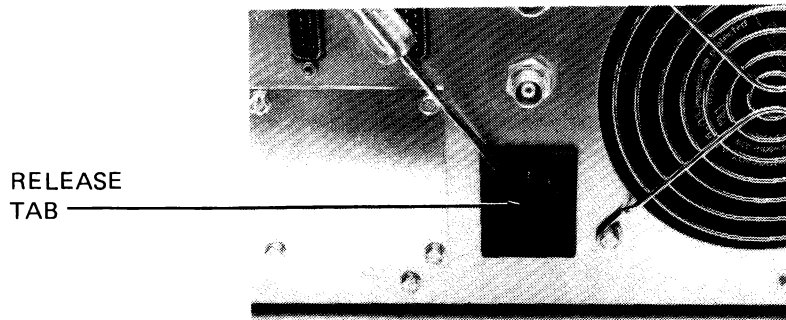

FIGURE 4-4. LOCATION OF FUSE DRAWER TAB
3. Using a small sharp instrument such as screw driver, pry the tab outward. Refer to Figure 4-4 for the tab location.